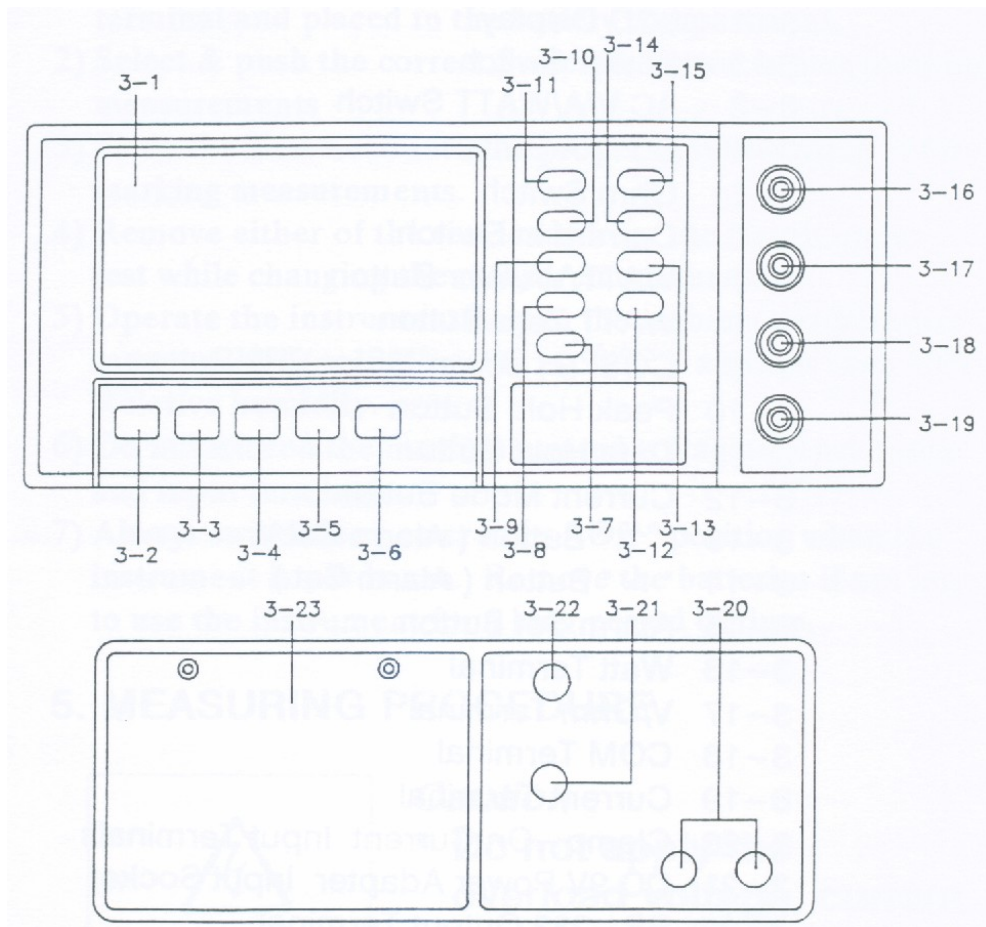

Abb. 1
The "LCD Display" (3-1, Fig. 1) will show the Watt, Voltage, Current, PF (Power Factor) at the same time.
8. During the Watt measurement, push the "PF/Hz Button" (3-9, Fig. 1) once, will show Line Frequency value instead of the PF value.
All the measuring procedures are same as the above "7.1-AC Watt/V/A/PF/Hz" measurement, except you should push the "Watt/VA/Whr Button" (3-7, Fig. 1) once, then the display will show the VA, voltage, current, Hz at the same time.
All the measuring procedures are same as the above "7.1-AC Watt/V/A/PF/Hz" measurement, except you should push the "Watt/VA/Whr Button" (3-7, Fig. 1) twice, then the display will show the Whr value along with the elapsed time.
- * The display of Whr measurement will stop (hold) when pushing the "Data Hold Button" (3-11, Fig. 1) once. Push the "Data Hold Button" once again for continuing the Whr function.
1. Push the "Power Switch" (3-2, Fig. 1) to "ON"-position.
2. Select the "AC V/A/Watt Switch" (3-3, Fig. 1).
3. Select the "Current In Select Switch" (3-6, Fig. 1) to the "DIRECT"-position.
- a) Connect red test lead to "V/Ohm Terminal" (3-17, Fig. 1) and black test lead to "COM Terminal" (3-18, Fig. 1)
- a) Connect red test lead to "Current (10 A) Terminal" (3-19, Fig 1) and black test lead to "COM Terminal" (3-18, Fig. 1)